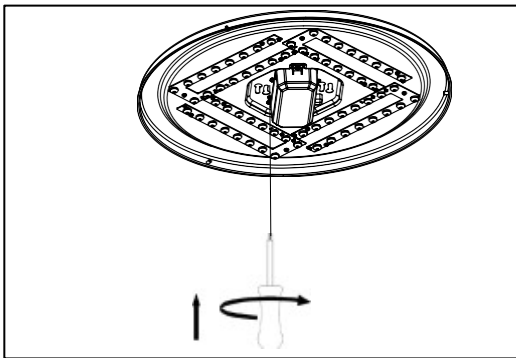

Figure 9
5. Rotate the housing assembly (2) into keyhole's lock position. (See Figure 9).
6. Secure the 2 screws with Phillips screwdriver (See Figure 9).